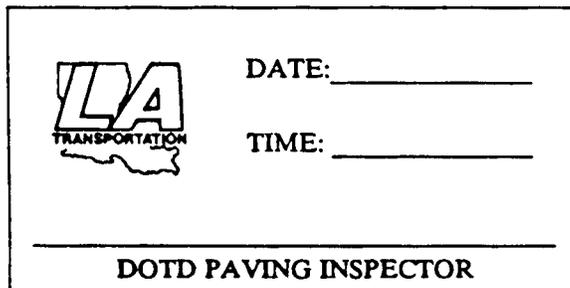

Figure 1: DOTD Tamper-Proof Sticker
- 4. Have the DOTD inspector label the samples with tamper-proof stickers (see Figure 1) showing the date and time of sampling and the signature of the inspector. (These stickers are available from the Materials and Testing Section).